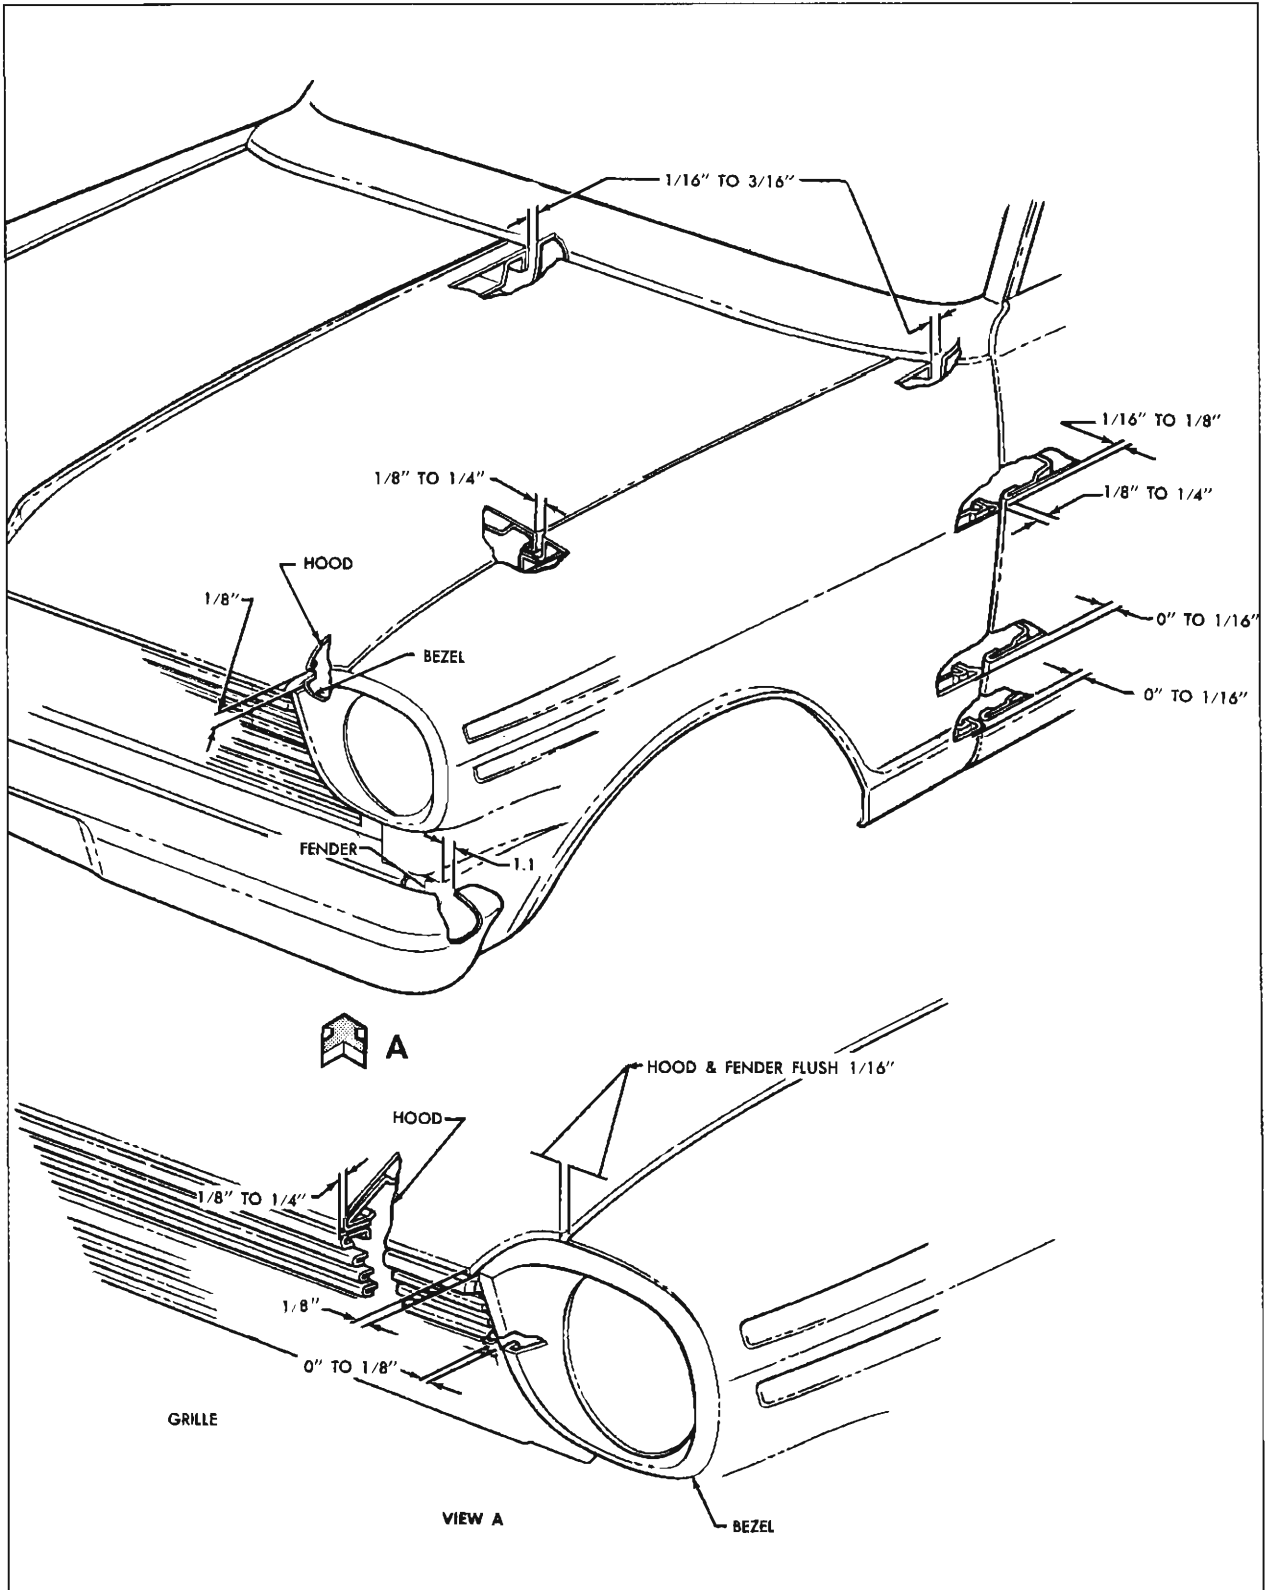

Fig. 26—Sheet Metal Adjustment (Typical)
The alignment of the hood in relation to other sheet metal parts is controlled by the position of the hood hinges and the height of the two bumpers, located one at each end of the radiator support. The adjustments at the hood latch must be made after the hinges and bumpers are positioned to yield the dimensions shown in Figure 26. Latch adjustments are made so that effort required to open and close the hood is reasonable and so that the hood alignment obtained by hinge and bumper adjustment is maintained when the hood is closed. Note that the hood latch is not designed or intended to correct basic hood alignment faults.
**FENDER ADJUSTMENT (FIGS. 26 AND 27)**